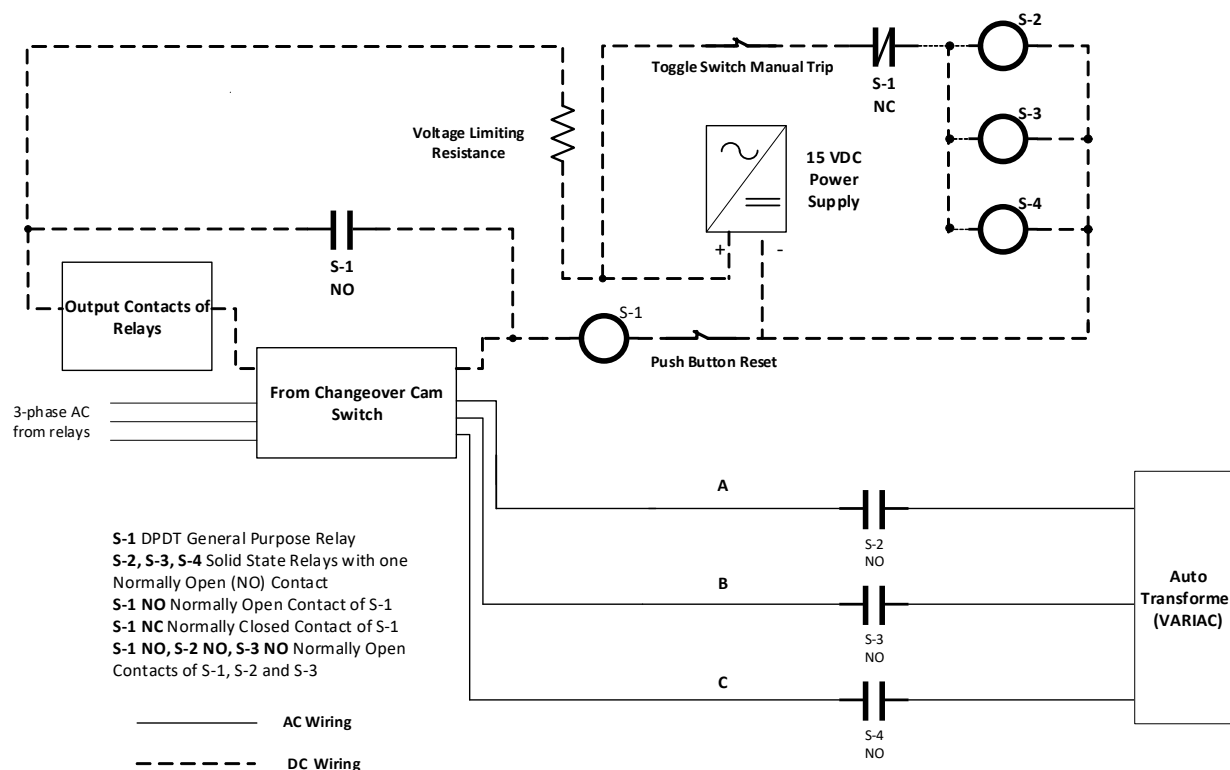

Figure 3.2 Functional diagram of breaker circuit for transformer primary side protection
3.2 Transformer Primary Side Protection Breaker Circuit (B)
The circuit of the Overcurrent Protection Relays Test Bench requires two circuit breakers; one at the primary side and the other at the secondary side of the autotransformer (H). Only one industrial circuit breaker was available which has been used at the secondary side of the transformer. For the primary side, a circuit employing solid state relays, 15 VDC power supply, voltage limiting resistors and a general-purpose double pole double throw (DPDT) relay, has been designed and used. The functional diagram of the breaker circuit is given in Figure 3.2. The detailed wiring schematic of breaker circuit is provided in appendix A-2.